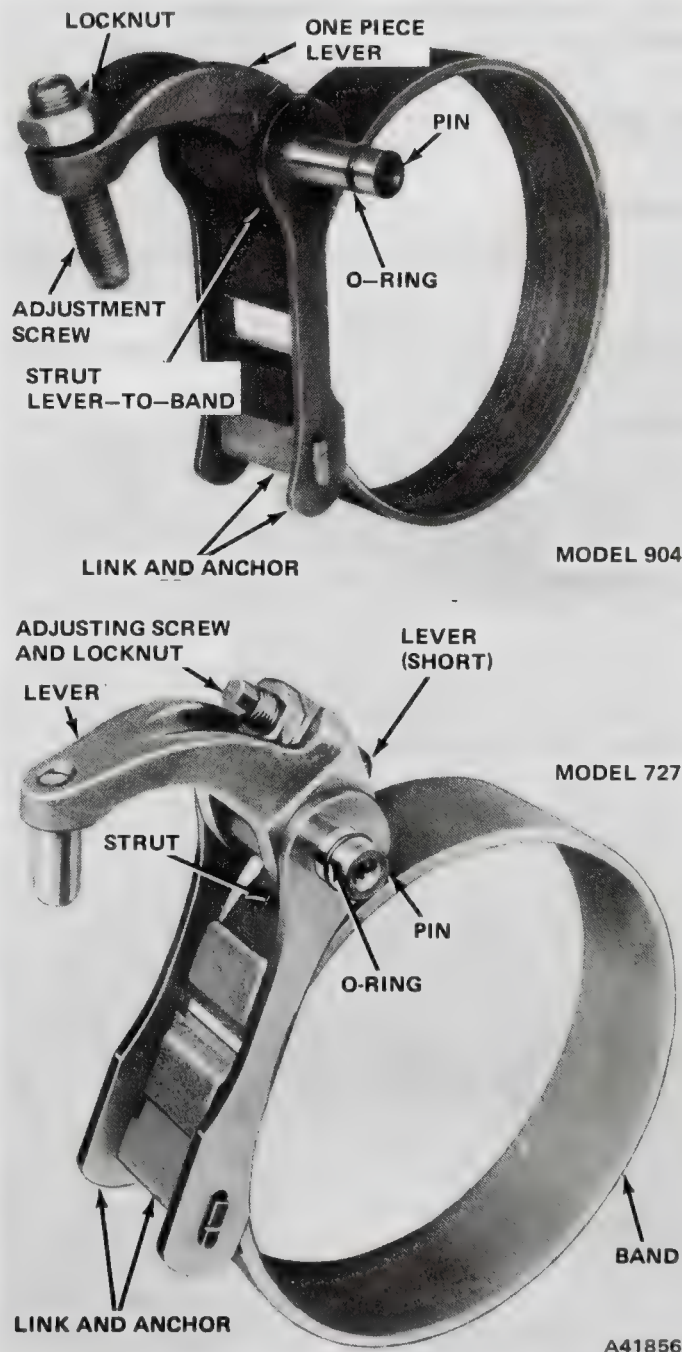

Fig. 2C-100 Rear Band—Models 904-727
(1) Install rear band in case.
(2) Install short strut, and connect long link and anchor in band (fig. 2C-100).
(3) Thread band adjusting screw inward just enough to hold band strut in place.
(4) On model 727 transmission, be sure long link and anchor assembly is installed as shown in figure 2C-99 to provide clearance for rear band and drum.
(5) Install first-reverse drum in overrunning clutch hub and rear band.